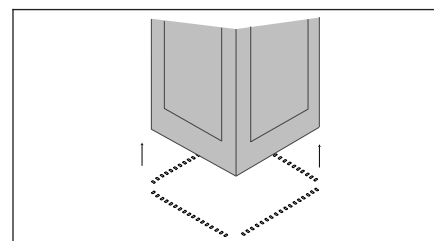

Figure 5 Lift Component
9. Upon completion of reflow cycle, raise nozzle and allow component to cool prior to board removal from work platform. (See Figure 5.)